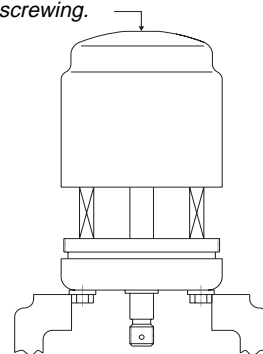

Figure 2
- 1 Insert four bolts into bonnet and clamp into vise as illustrated in Figure 2